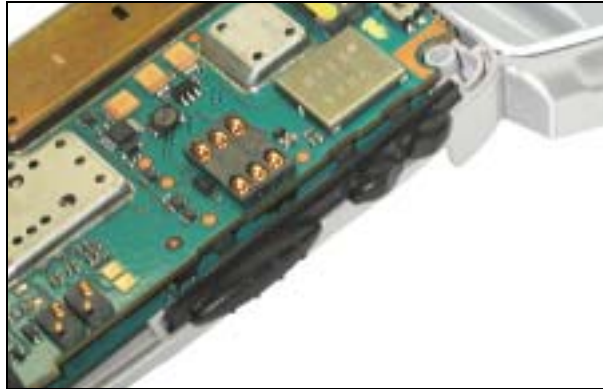

Figure 7-25.
1. Align PTT/Volume Keypad with its respective slot in the Front Housing after the Main/Controller Board Assembly is installed (see Figure 7-25).